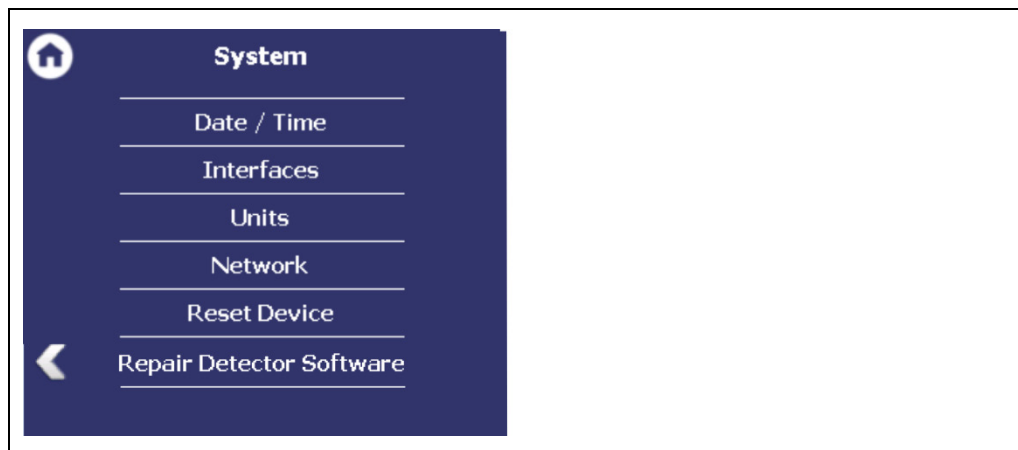

Fig. 39 Submenu "System"
1. Click <Edit> (Fig. 39, item 2) to open the input field.
Automatic logout	Activating the selection box (Fig. 39 item 1) automatically resets the access level Standard to "Basic" when the system changes to the standard display after the timeout (Chap. 7.3.1).